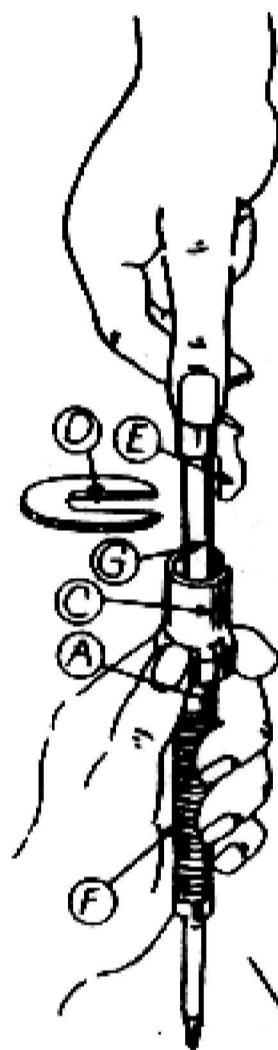

FIG. 2
5 PLACE THE FIRING PIN ASSEMBLY (A) ON A BENCH, AS SHOWN IN FIG. 2, AND PULL DOWN ON THE SLEEVE (C). REMOVE THE PIECE OF METAL (D); GIVE THE COCKING PIECE (E) A QUARTER TURN COUNTERCLOCKWISE AND REMOVE. CAUTION: KEEP A FIRM GRIP ON SLEEVE (C), AS THE SPRING (F) WILL BE COMPRESSED AND HAVE A TENDENCY TO EXPEL THE SLEEVE RAPIDLY. REMOVE THE SLEEVE (C), THE MAIN SPRING (F), AND STRIKER (G).